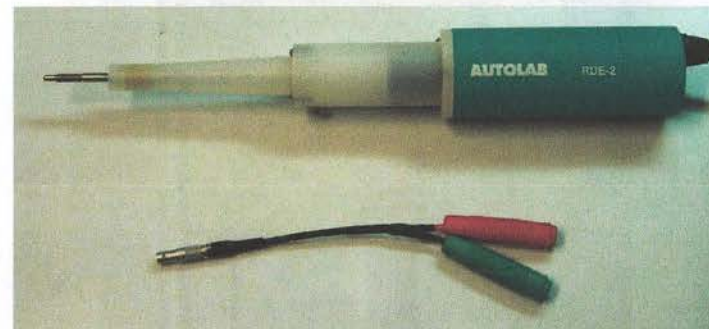

Figure 5 – The RDE and the Y connector used to connect the WE/S and Ground cables from the Autolab
Connect the red working electrode (WE) banana plug and sense (S) from the AUTOLAB to the red receptor of the Y cable provided with the RDE, shown in Figure 5.